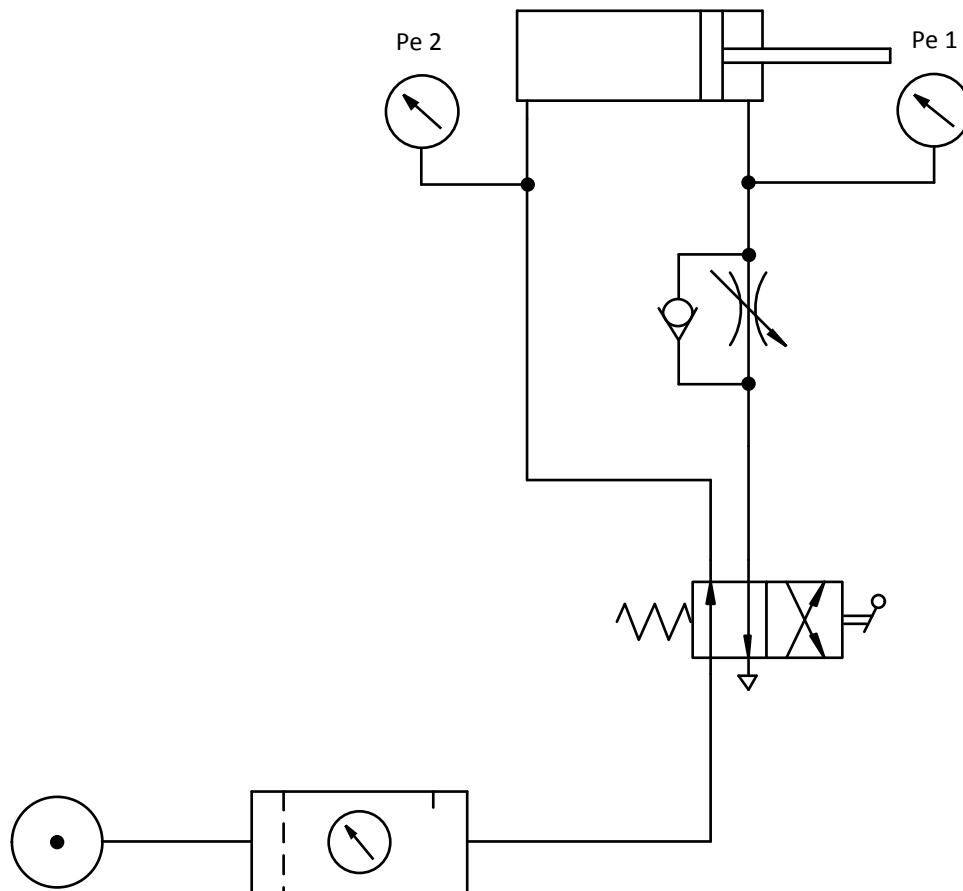

FIG 10.
- C. When the directional control valve is operated, the supply air flows through port 2 (A) of the directional control valve into the cylinder. (Fig 10)
- D. The return air is forced out of the cylinder by the piston and accumulates in front of the flow control valve which throttles the return air. (Fig 10)
(Fig 10)